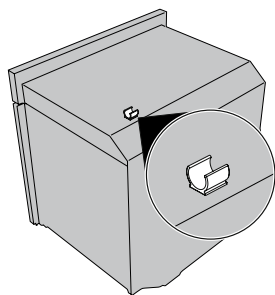

Figure 6
3. If present, remove the conduit cable bracket from the top rear of the oven (Figure 6).